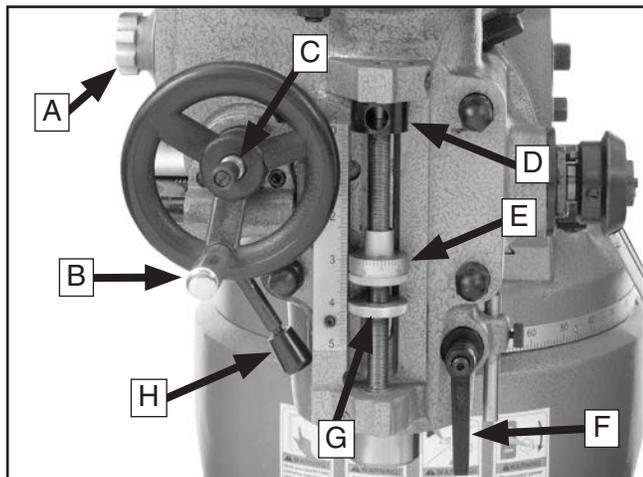

Figure 36. Fine and power downfeed controls.
5. Make sure the quill locking lever (**Figure 36**) is loose, and rotate the coarse downfeed handle around its hub to control the depth of the spindle.
There are a number of devices that are used with fine and power downfeed control. Familiarize yourself with these controls, as described below and shown in **Figure 36**.
4. Place the fine downfeed handwheel on the axle, and insert the handwheel hub pin into a hole on the base (see **Figure 36**).